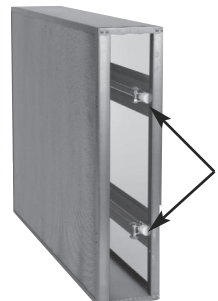

Fig. 5
5. Loosen retaining knobs and remove old UVC lamps. (Fig. 5)